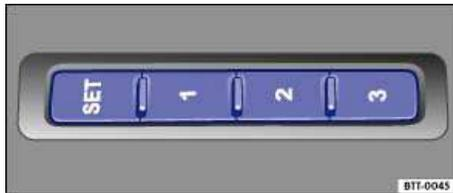

Fig. 57 On the outer side of the driver and front passenger seats: Memory buttons.
- Press the **SET** button for at least 1 second ⇒ fig. 57.
- Press and hold a memory button ⇒ fig. 57 until memory position is reached.